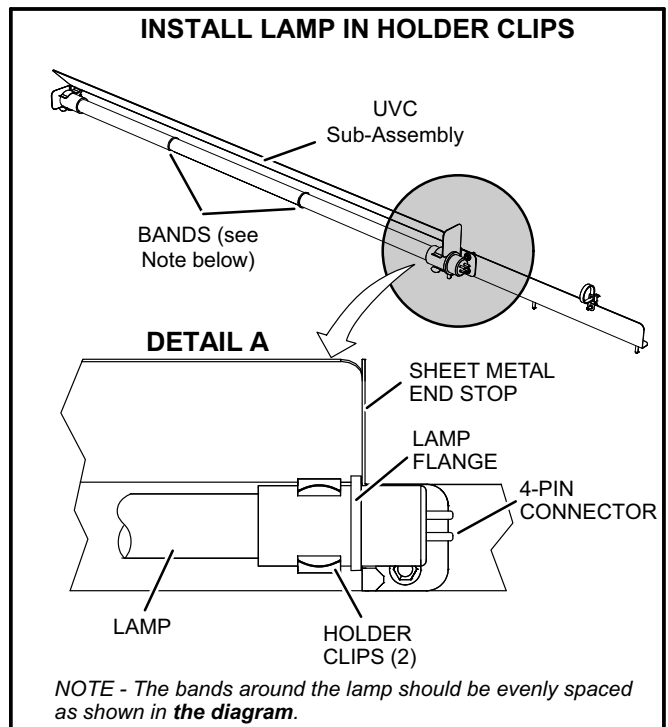

FIGURE 37
- 7- Wear cotton gloves or use a cotton cloth when handling the new lamp. Place the new lamp in the holder clips of the UVC assembly. Verify that the lamp flange at the connector end is sandwiched between the lamp holder clip and the sheet-metal end stop (see figure 37).